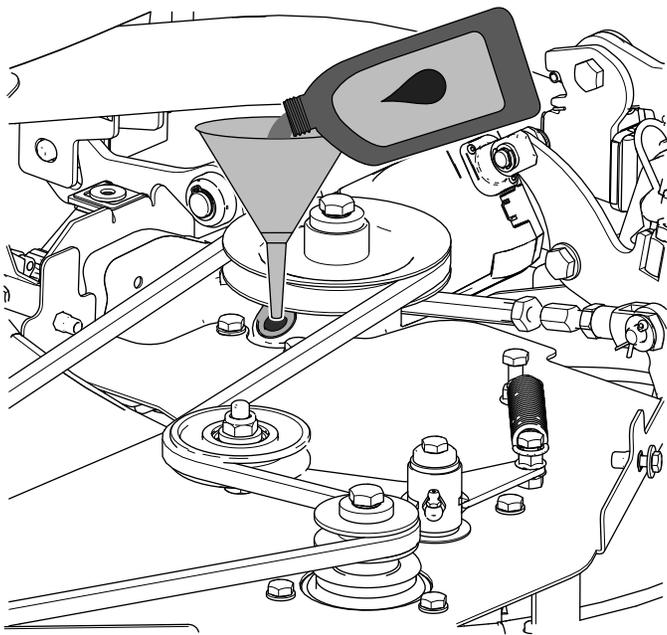

Figure 97
2. Using a funnel, add the specified gearbox oil into the gearbox through the plug hole (Figure 97).